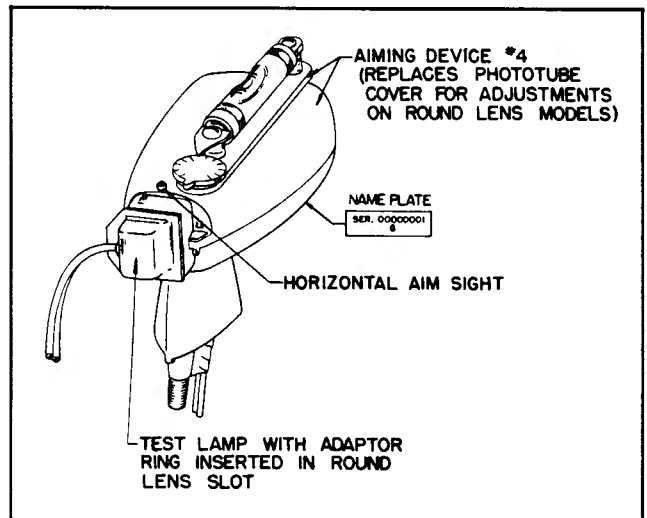

Fig. 14-23 Test Lamp and Aiming Device Mounted on Phototube
The Aiming Device No. 4 (Fig. 14-23) consists of a special phototube unit cover with the leveling device mounted on it. Two horizontal aiming sights, located on the center line of the special phototube
To adjust the aim and sensitivity on the round lens models, remove the regular cover and lens from the phototube unit. Install the test lamp in the base by inserting the locator ring in the lens slot. The lens locator in the phototube unit base must fit in the locator ring notch. Replace the regular cover with the new aiming device (Fig. 14-23). Be sure the cover retaining screws are tightened securely. Follow the instructions for aiming and sensitivity adjustments on car.
4. Observe number stamped on name plate on bottom side of phototube unit (Fig. 14-23) and adjust dial of Aiming Device No. 4 to this number.